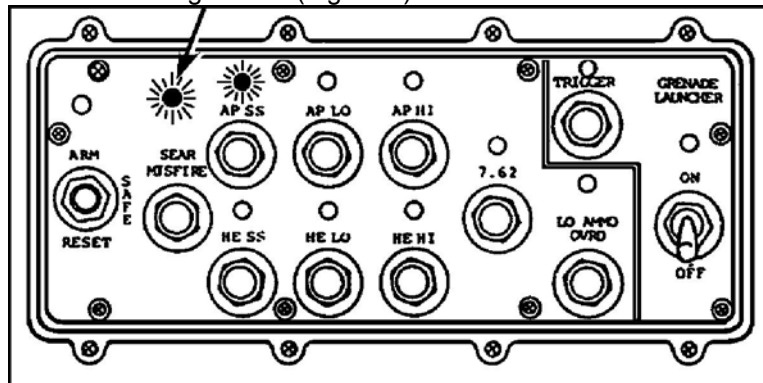

Figure 2. Sear indicator light.
6. Check that the sear indicator light is on (Figure 2).